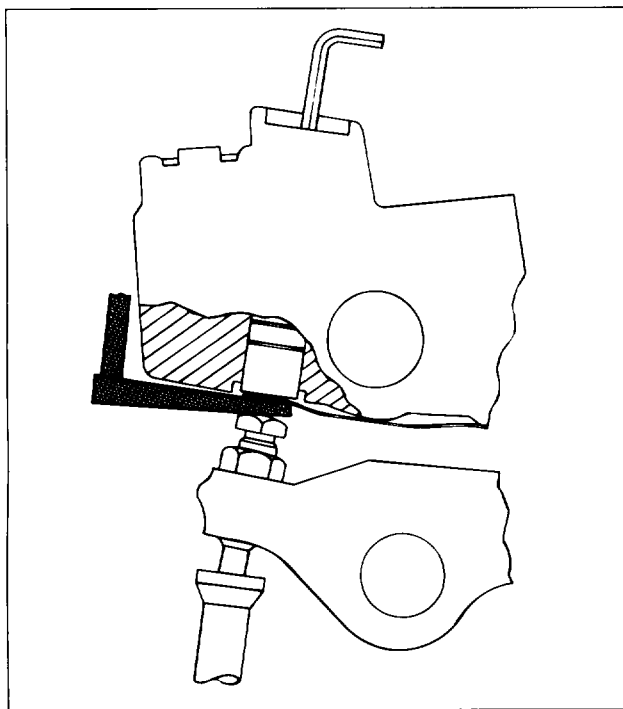

FIG. 35
2. Insert the Jacobs master piston holding wedge between the master piston and exhaust rocker adjusting screw. Push the wedge in until the master piston bottoms in its bore (see Fig. 35). This will prevent the master piston from turning while the trigger adjustment is being made.